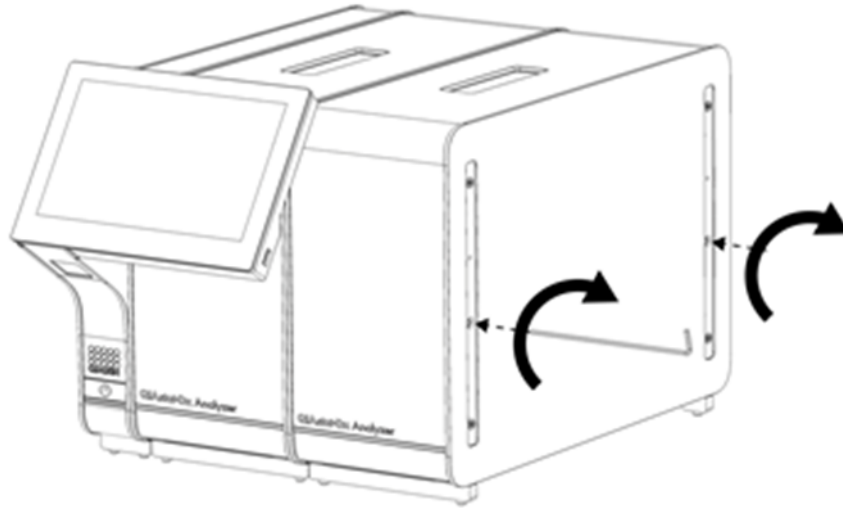

Figure 16. Aligning and attaching the additional Analytical Module.
4. Align the additional Analytical Module with the existing Analytical Module. Tighten the screws using the Analytical-Operational Module Assembly Tool delivered with the QIAstat-Dx Analyzer 2.0 (Figure 16).